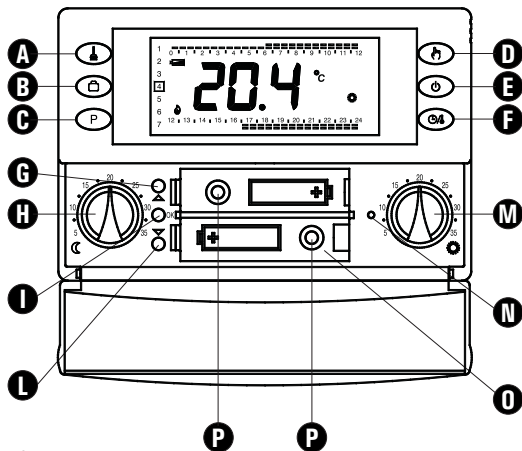

Fig. 4
5. Insert the batteries in the battery compartment (O in Fig. 4); see paragraph 'HOW TO INSERT/REPLACE THE BATTERIES'.
Insert the batteries in the battery compartment, observing the polarities indicated (see paragraph 'HOW TO INSERT/REPLACE THE BATTERIES') and carry out a reset operation by inserting a pointed object through the hole provided (N in Fig. 4); **DO NOT USE NEEDLES OR TOOLS THAT COULD IRREPARABLY DAMAGE THE CHRONOSTAT.**
'OK': For programming the time and current day of the week (I in Fig. 4);
'▲': Forward (G in Fig. 4);
'▼': Back (L in Fig. 4);
The Comfort temperature is set by means of the '⚙' knob (M in Fig. 4) whereas the Economy temperature is set by means of the '⌚' knob (H in Fig. 4).